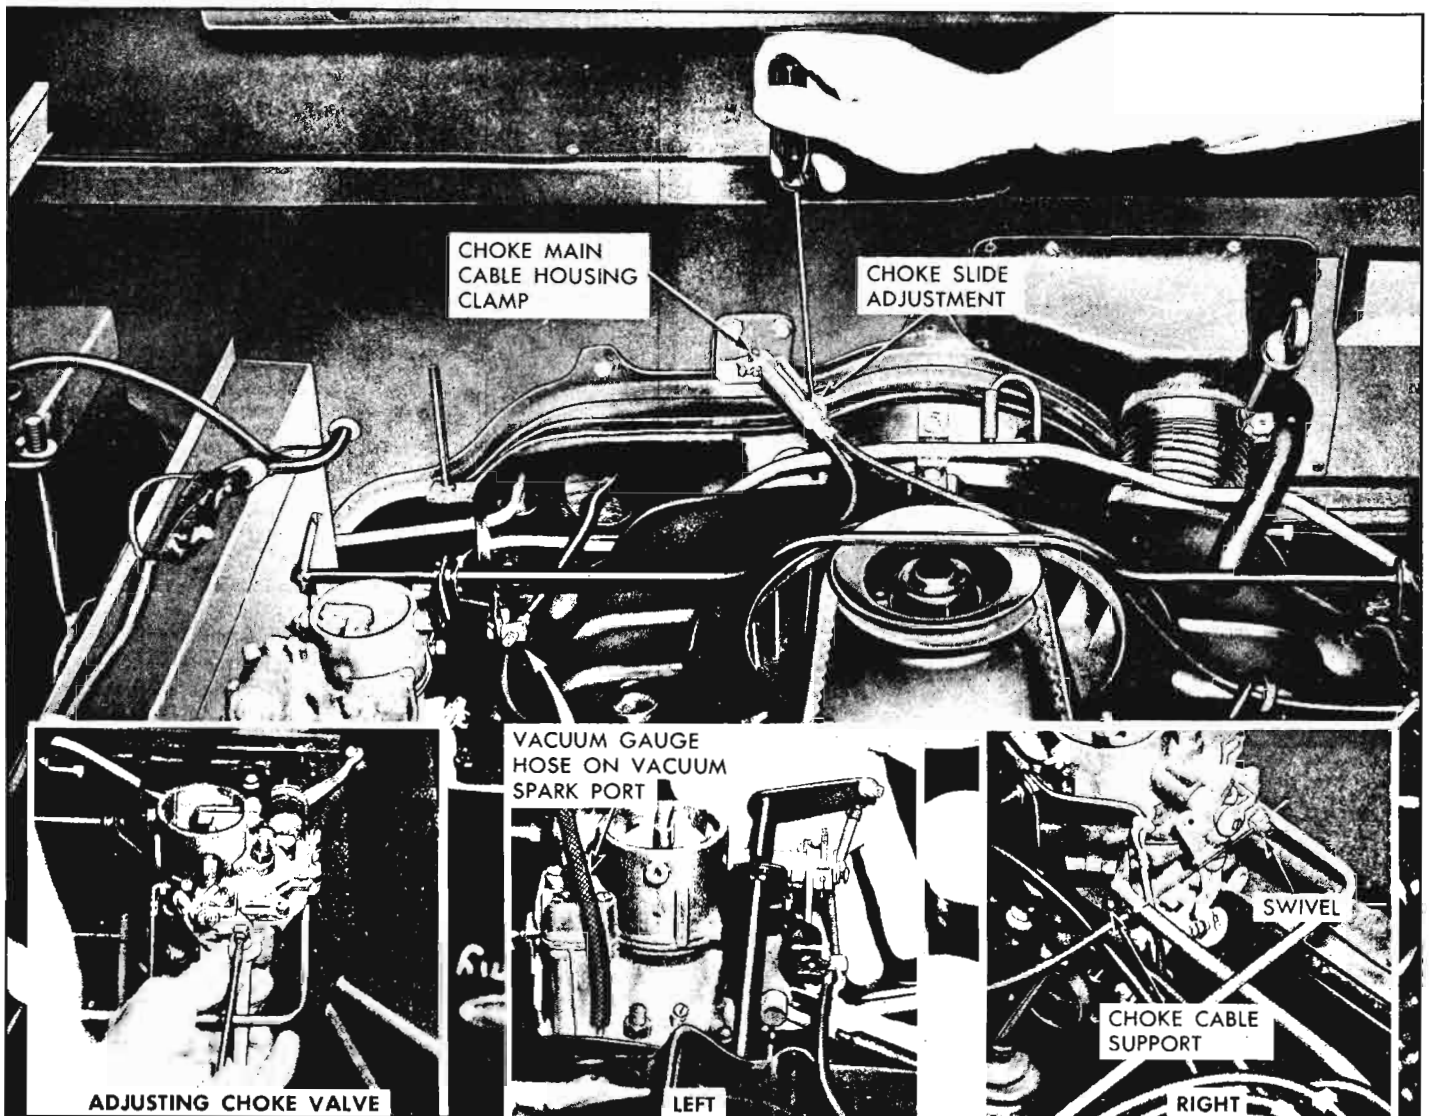

Fig. 7-12—Choke Linkage
- d. Lubricate generator by filling hinge cap oilers with light engine oil (fig. 7-12).
1. With the slide (fig. 7-12) $\frac{1}{4}$ " from the rear of the mounting bracket and choke knob on dashboard out approximately $\frac{1}{8}$ ", tighten the slide screw onto main choke cable wire.
2. Assemble cable and housing assemblies loose at both carburetor mounting brackets (fig. 7-12). Extend cable housing approximately $\frac{1}{4}$ " beyond mounting bracket clamps and tighten clamp at each carburetor.
CAUTION: Hold swivel with a wrench (fig. 7-12 insert) when tightening the screw, to avoid kinking the choke cable wire.